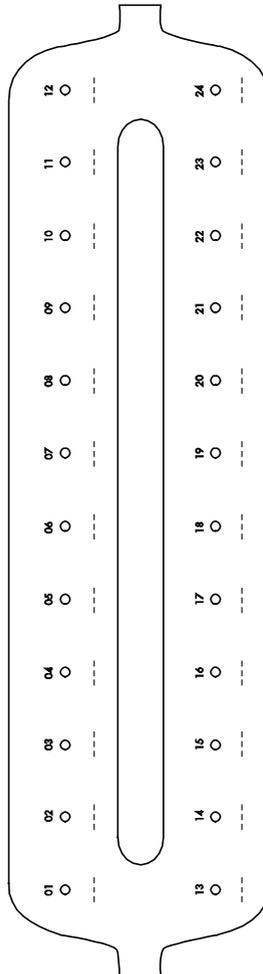

Figure 3. Labeling scheme for Lysis Tubes (LT), Elution Tubes (ET), and QIAamp Mini spin columns for use on the QIAvac 24 Plus vacuum system.
(1) VacValve, (2) VacConnector (VC), and (3) QIAamp Mini spin column.
If using the vacuum procedure with the QIAvac 24 Plus vacuum system, we recommend labeling the Lysis Tubes (LT), Elution Tubes (ET), and the QIAamp Mini spin columns according to the scheme in Figure 3 (see next page) to avoid the mix-up of samples. This figure can be photocopied and labeled with the names of the samples. We recommend using a similar scheme if using other vacuum systems or if using the spin procedure.